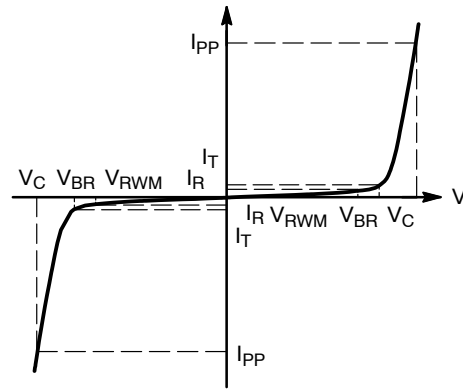

Figure 1. Bi-Directional
1. Non-repetitive current pulse per Figure 1.
- Pulse waveform per Figure 1.